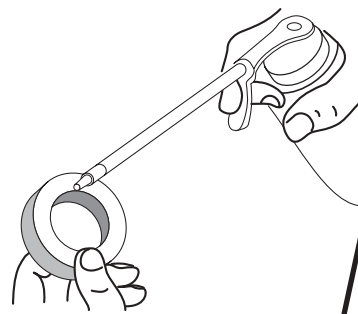

Fig. 22
4. Apply enough clean SAE 30 oil to lightly coat the filter (Fig. 22).